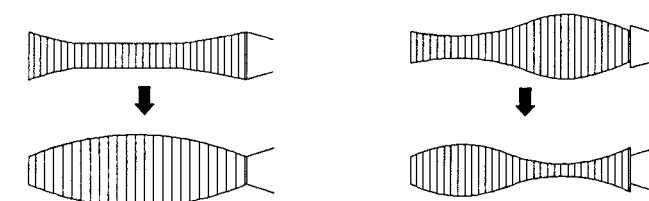

Fig. 5-4-8 Abnormal variation of the waveform
7. If the envelope varies as shown in Fig. 5-4-8, adjustment of the S, T-guide rollers may be upset, if so perform the adjustment again.